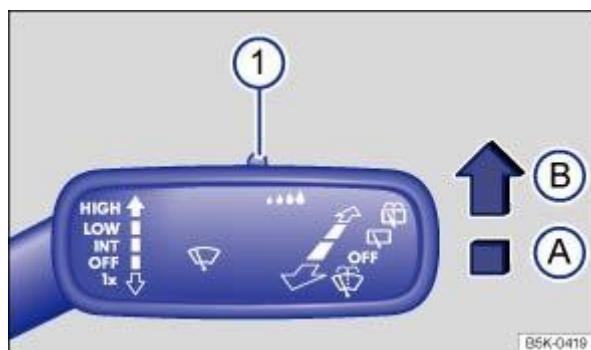

Fig. 85 On the right of the steering column: wiper lever.
The sensitivity of the rain/light sensor can be adjusted manually using the switch in the wiper lever ⇒ Fig. 85 **①** ⇒  .